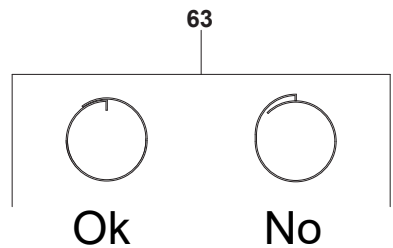

Fig. 1.01
1.1.02) Clean the cartridge pos. 63 thoroughly, make sure there is no breakage, and fit back in place (pay attention as shown in fig.1.01)
1.5.01) Once you have disassembled the head as explained in sections 1.2.01 to 1.2.03 and sections 1.4.01 to 1.4.02, take out all the parts as shown in fig. 1.01.